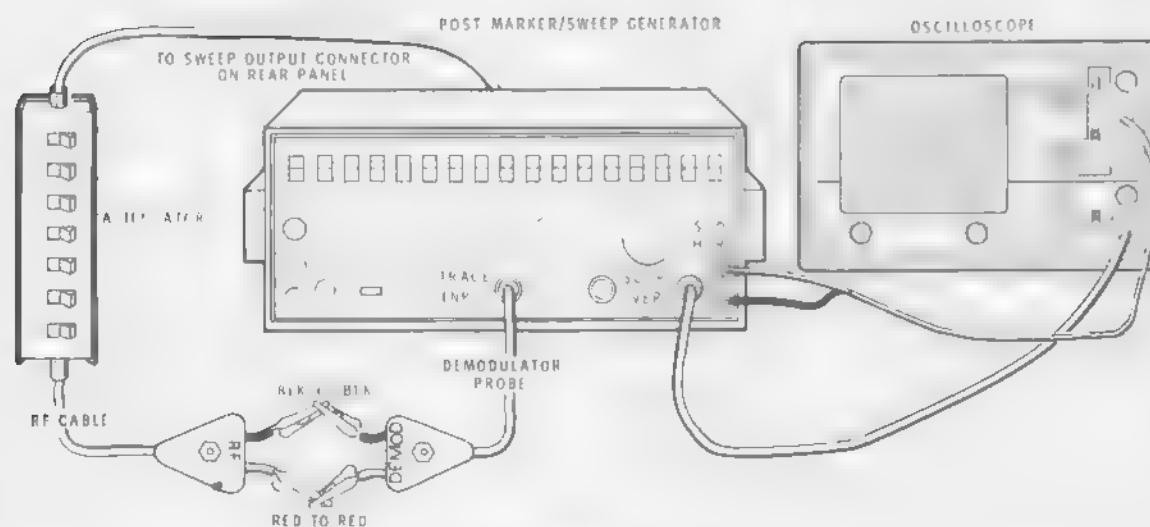

FIGURE 12
- () Refer to Figure 12 (fold-out from Page 68) and connect the Oscilloscope, Generator, and Attenuator together as shown.